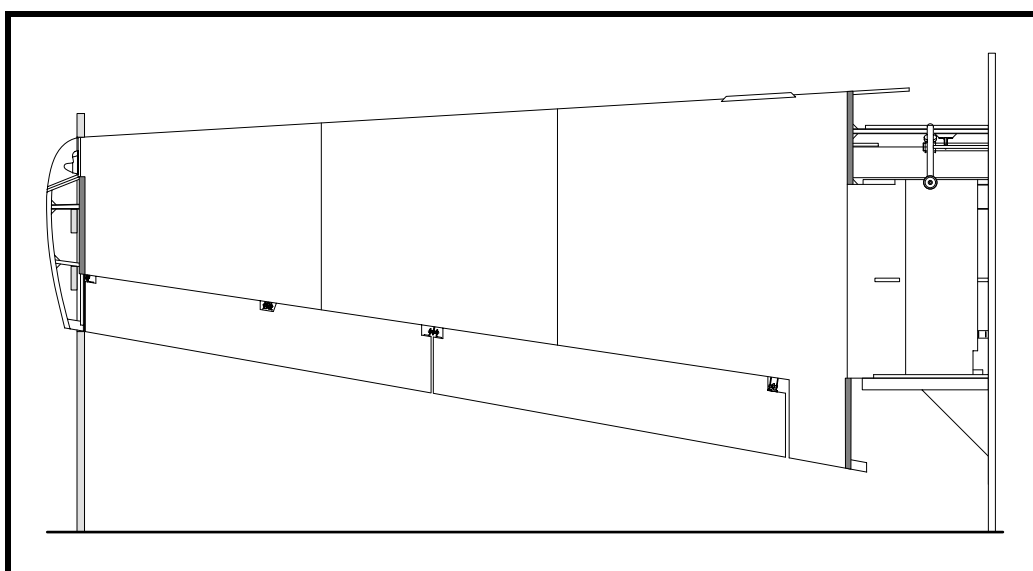

Figure 51
- ❑ Cut and fit the inboard upper wing skin as shown in Figure 51. This skin should extend inboard to B.L. 60. At the aft end—for 100mm forward of the forward face of fuselage frame No. 6—cut it to match the seat support. This will provide clearance for the rudder cable and access to drill the flap motor and torque tube mounting holes.